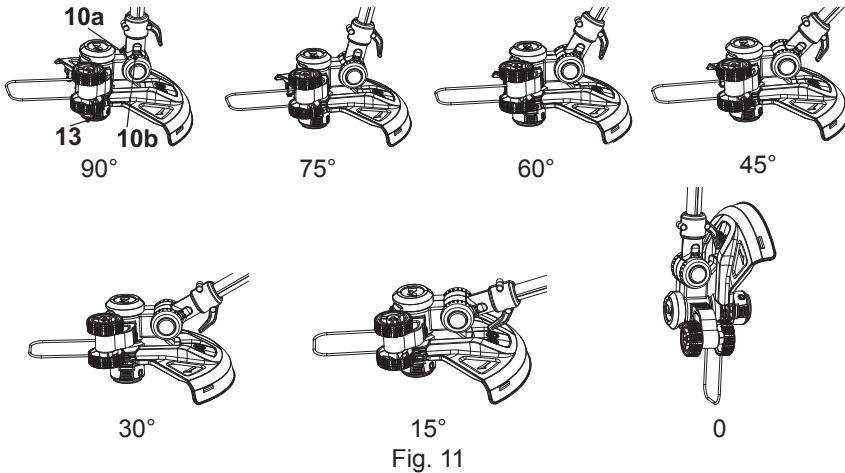

Fig. 11
Tilt the angle of trimmer head (13) to fit the ground conditions for trimming or edging use by aligning the indicator (10a) with the indication line (10b) (Fig. 11).